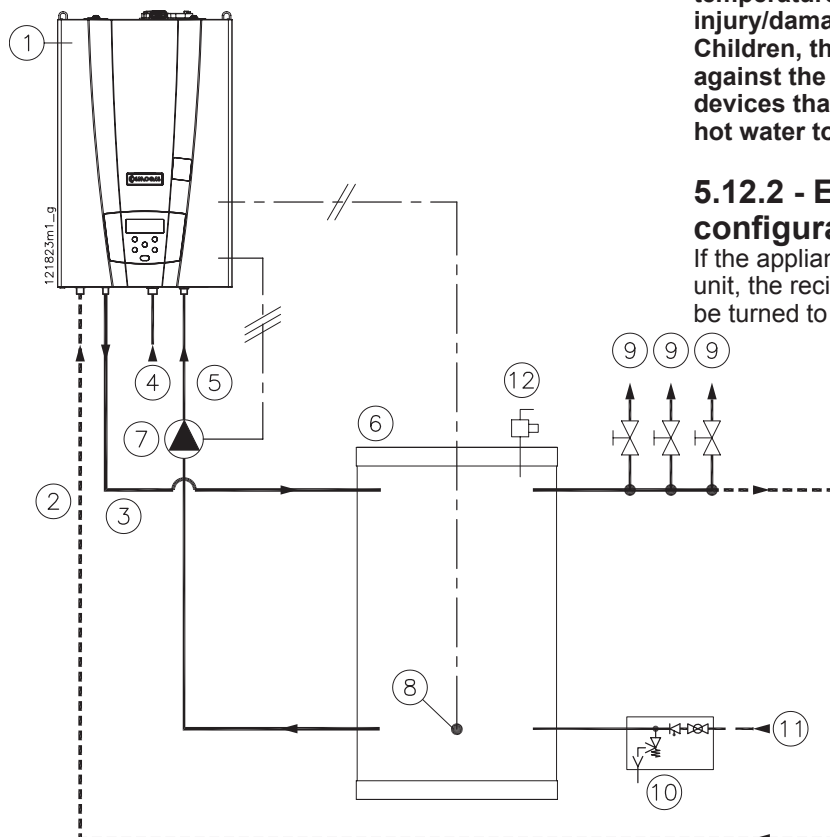

Figure 5.10 - water connection to the storage tank
The hydraulic connection must be made as in figure 5.10. Proceed as follows for the electric connection (refer to the figure 5.9):
- 3.- lay a bi-polar electric cable with minimum section of 1.5 mm², which goes from the appliance to the storage tank temperature sensor and connect it to the appliance at terminals "8" and "9" (SB);
- 5.- introduce the temperature sensor inside the storage tank sample point (see figure 5.10 detail "8").
- 6.- Connect the electric power of the storage tank pump (see figure 5.10 detail "7") to "PE" terminals of the water heater.